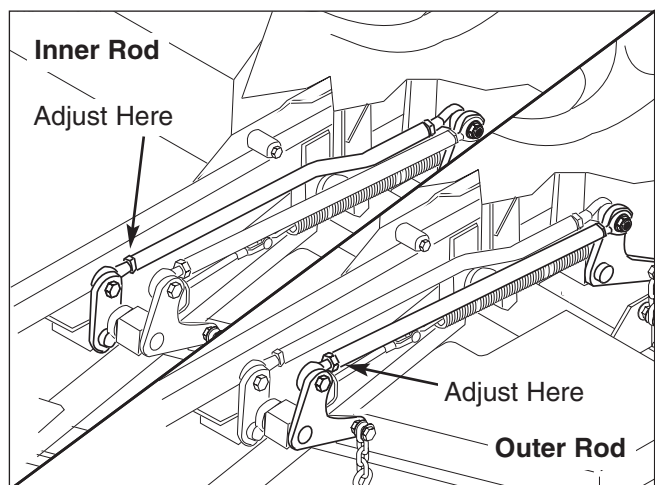

Figure 39. Adjust the Inner & Outer Lift Rods
8. Refer to Figure 39. To adjust the inner lift rod, loosen the jam nut on the front ball joint then remove the 1/2" hardware fastening the ball joint the the lift pivot arm. Turn the ball joint clockwise to shorten the distance between the rod pivots or counterclockwise to lengthen the distance between the rod pivots. Reinstall the ball joint on the lift pivot arm and secure with the 1/2" hardware previously removed. Tighten the jam nut against the lift rod.
9. Refer to Figure 39. To adjust the inner lift rod, loosen the jam nut on the front ball joint then remove the 1/2" hardware fastening the ball joint the the lift pivot arm. Turn the ball joint clockwise to shorten the distance between the rod pivots or counterclockwise to lengthen the distance between the rod pivots. Reinstall the ball joint on the lift pivot arm and secure with the 1/2" hardware previously removed. Tighten the jam nut against the lift rod.